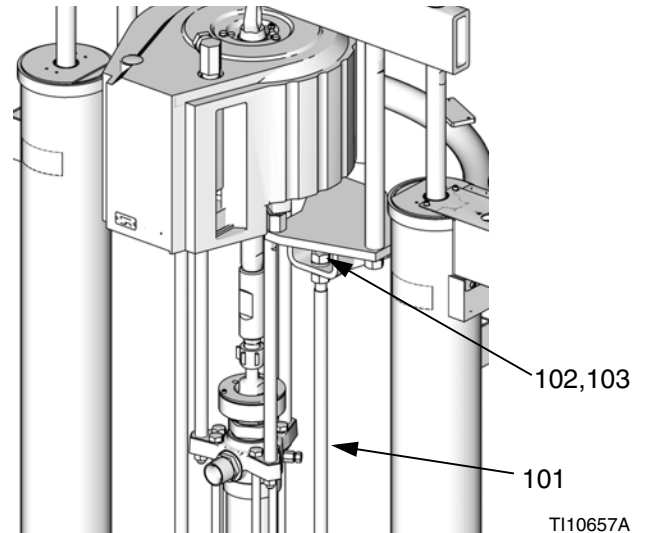

FIG. 21
1. Remove nuts and washers (102, 103) from top of platen lift rods (101). See FIG. 21.
Do not remove or adjust the nuts (102) below the brackets. See FIG. 21. If the nuts are adjusted the pump will not fully engage with the platen or the smaller distance will put stress on the motor, tie rods, and displacement pump.
4. Tighten nuts (103) and washers (102) to top of platen lift rods (101). See FIG. 21.